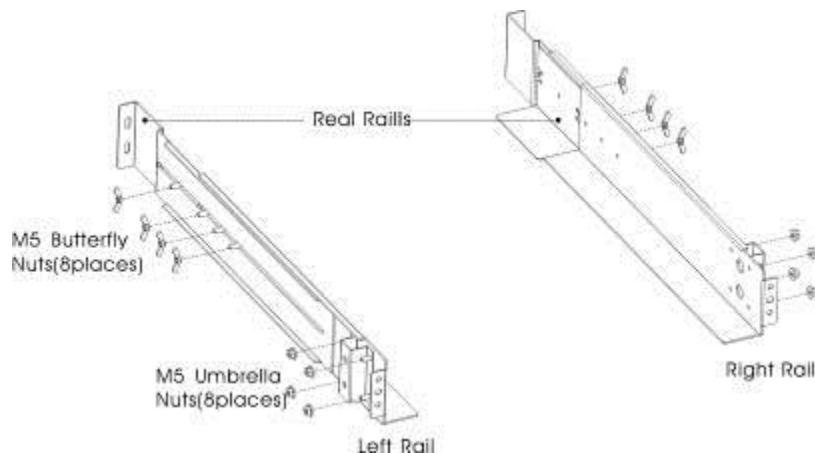

Figure1 Securing the Rails
- *If installing optional EBP(S), make sure to install the EBP(S) directly below the UPS so that all wiring between the cabinets is installed behind the front covers and inaccessible to users.*
(1) To install the rail kit
- a) Assemble the left and right rails to the rear rails as shown in Figure1. Do not tighten the screws.
- c) Tighten four M5 Umbrella Nuts in the side of rail assembly(see Figure 1).